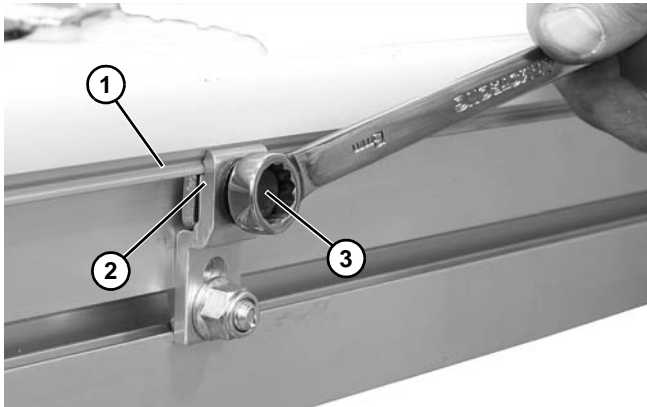

Figure 88
5. Attach guiding (**Figure 88, item 1**) to clip (**Figure 88, item 2**) and tighten screw (**Figure 88, item 3**).